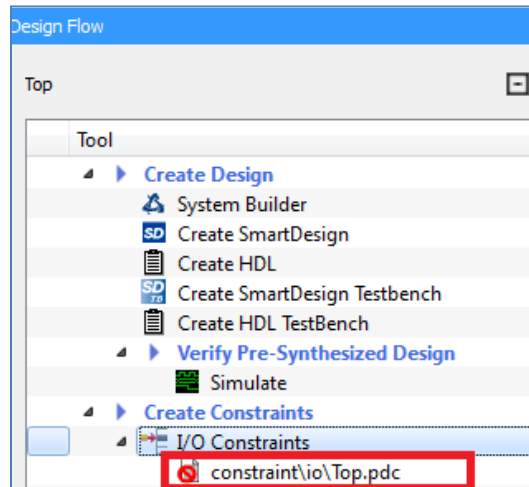

Figure 36 PDC Constraint File in the Libero SoC Project
4. The file is visible under **I/O Constraints** and Create Constraints, as shown in Figure 36.